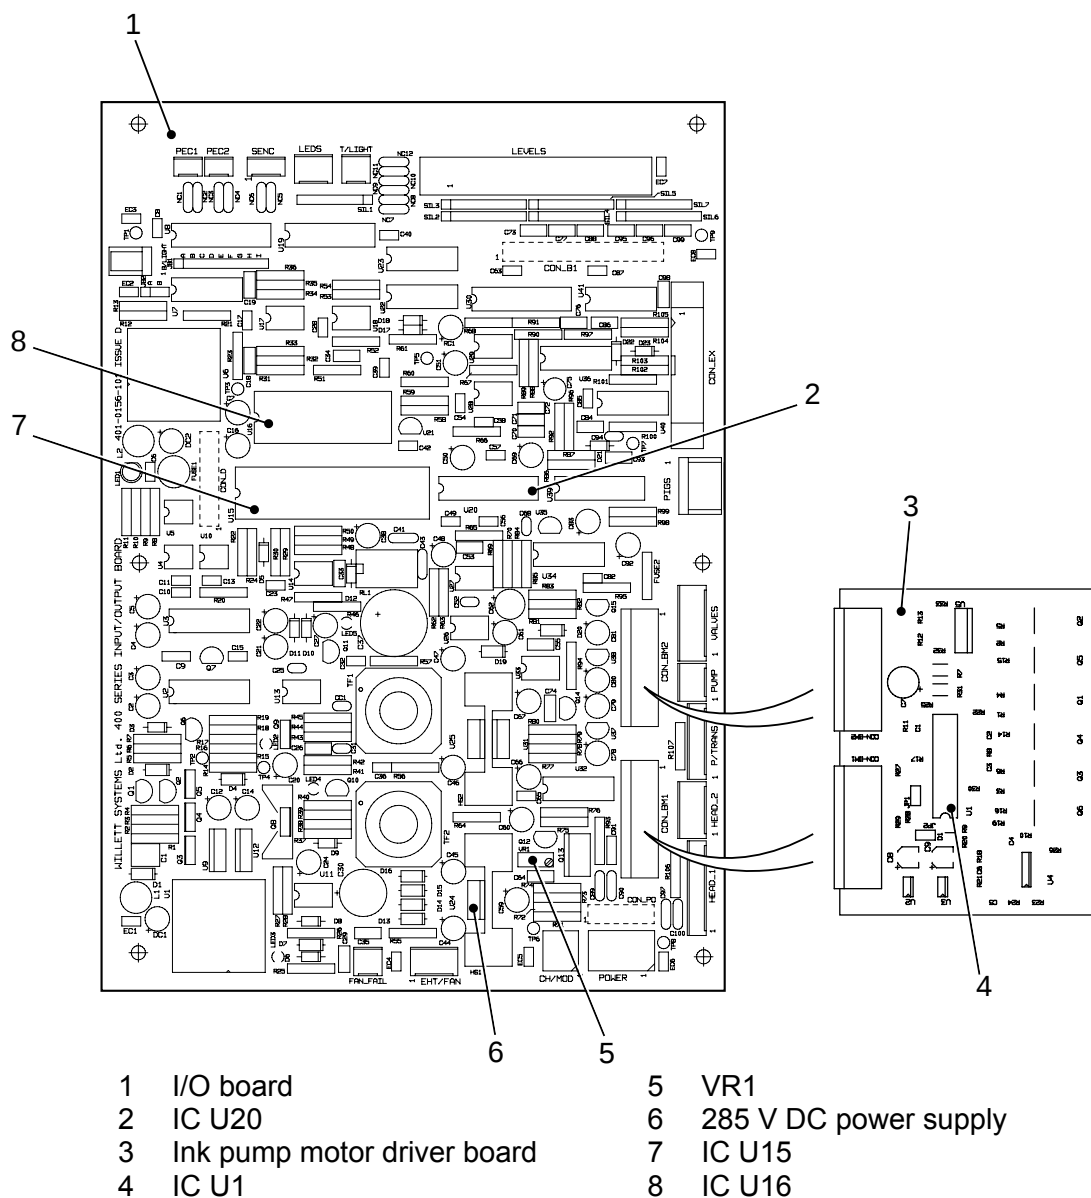

Fig 10.10 I/O board major components
- 21** The following major components are fitted to the I/O board (Fig 10.10 (1)):
- 21.1 IC U20 (2) is a Quadruple Digital to Analogue Converter (QDAC) which converts digital inputs into analogue 0 to +5 volt signals to control functions on the I/O board.